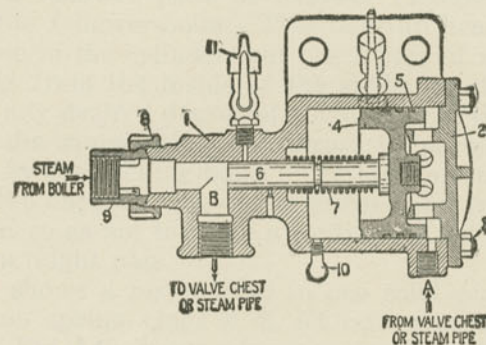

Fig. 138. Automatic Vacuum Breaker.
A. By an automatic vacuum breaker, Fig. 138. When the pressure in chests or cylinders drops below ten pounds, the boiler pressure against the plunger 6 moves it and with it the piston 4 far enough to uncover the passage B and let live steam into the cylinders until ten pounds pressure is built up, when the plunger returns.